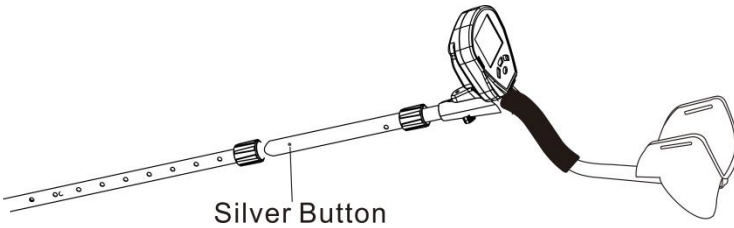

Fig.4
6. end of the middle stem (see Fig.4).